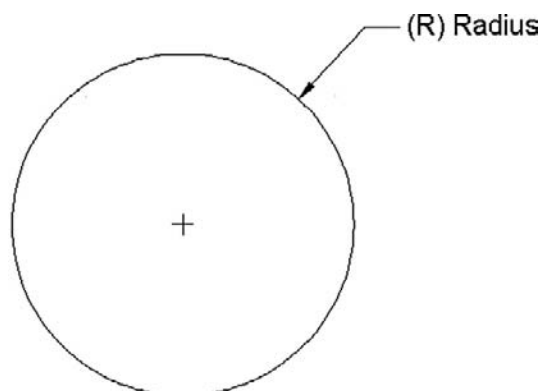

FIGURE 6.5
This is a dimension that measures the radius of a circle or an arc (Figure 6.5).
- Step 1.** Create a small to medium-size circle, as seen in Figure 6.5. Then, begin the radius dimension command via any of the preceding methods.